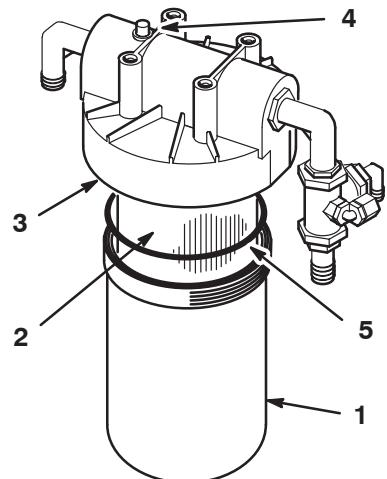

Figure 19
3. Unscrew the filter body of the assembly (Fig. 19) counterclockwise (as viewed from the bottom). Remove the filter cartridge and discard it.
2. Locate the main water filter assembly mounted below the fuel tank. Press the bleed button (Fig. 19) to release air pressure from the filter body.
4. Thoroughly rinse out the filter body to avoid contaminating the water system. Make sure that the o-ring (Fig. 19) is in the groove. If it has come out, wipe it dry, lubricate it with a light coating of petroleum jelly, and replace it in the groove.
8. Turn on the water supply and press the bleed button on the top of the water filter head (Fig. 19). Hold the bleed button down until all air is purged from the filter and water comes out of the opening.